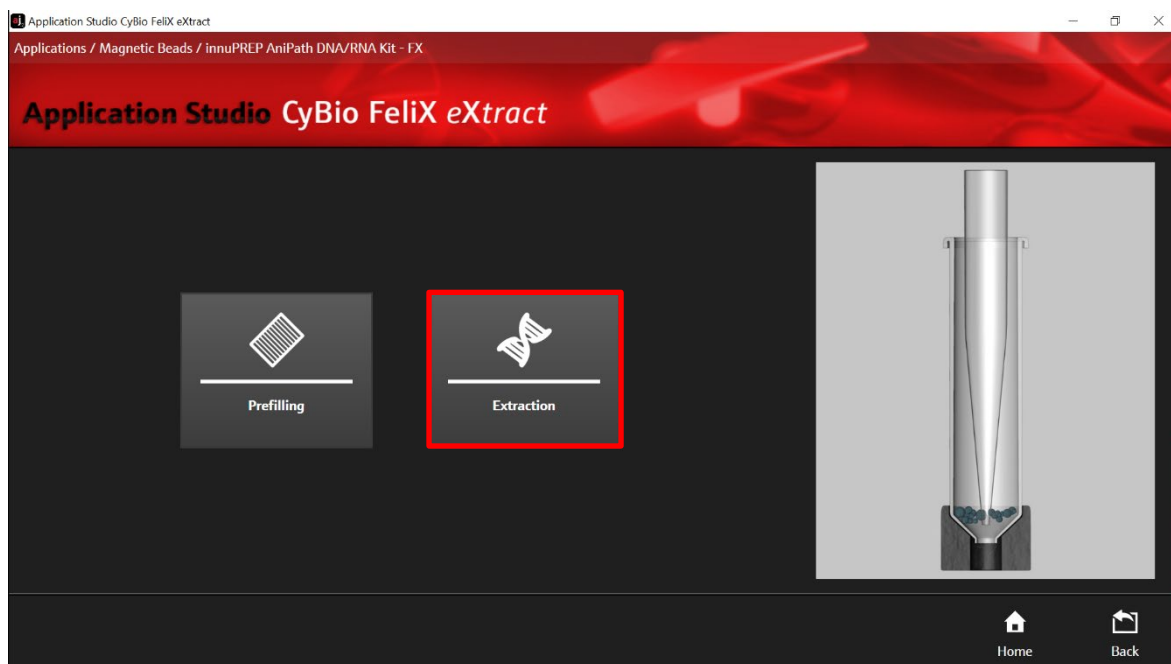

Figure 13: Routine selection in the AppStudio FeliX eXtract: Extraction.
6. Select "Extraction" (→ see Figure 13).